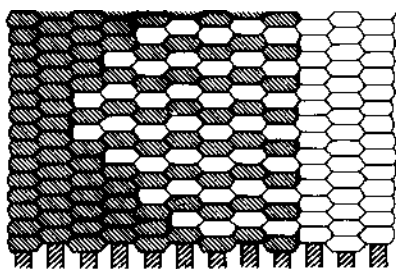

FIGURE 5. Hatching
(5) WEFT SEQUENCES are the decreases (or increases) of warp threads for each pass of a weft color in order to create weft curves and lines. If you can remember 1, 2, 4, 6, 8, etc., and including 'Jan's Law', your curve will be all right. Do not fluctuate once you have developed a sequence into a curve. For example, the following might be possible to create a good curve - 1, 1, 2, 2, 4, 4, 6, 8, etc. If you have to add another pass to make it work be certain to change between numbers, i.e., 1, 1, 2, 2, 2, 2, 4, 4, 4, 6, 6, 8, 8, etc.
(6) WARP SEQUENCES follow all rules of weft sequences EXCEPT that one should go sequentially 1, 2, 3, 5, 7, etc. When the warpwise curve is steep and there is warp distortion, use the double-weft interlock instead of long slits for the color changes.
(7) HATCHING-Fig. 5, is using single passes alternately of two colors to create shading and/or another color. 'Hatching' is the English word for the French 'hachure' when using one point of one color then one point of another color (or single passes alternately). At the Workshop, hatching is used only for the single hachure to clarify communication. See Fig. 5.